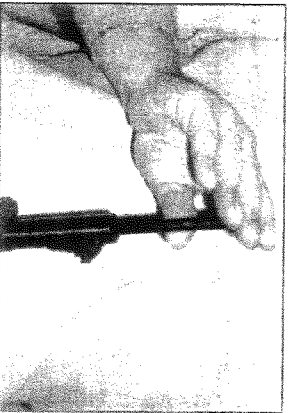

Figure 5
12. Use longer end of ball starter to move projectile about six inches down the bore. (See Figure 5).